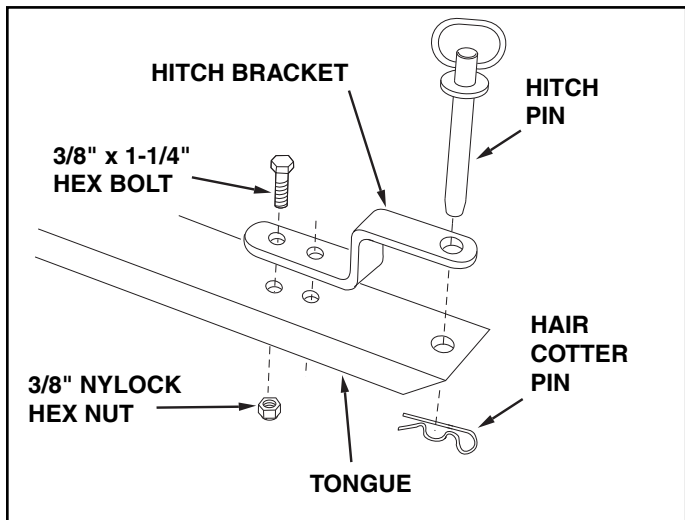

FIGURE 9
15. Assemble the hitch bracket to the front tongue using two 3/8" x 1-1/4" hex bolts, 3/8" and 3/8" Nylock hex nuts. **Tighten.** See figure 9.
16. Secure the hitch pin to the hitch bracket and tongue with the hair cotter pin. See figure 9.